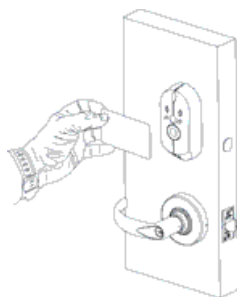

Figure 4-8 - Presenting a Proximity Card to a WA
- 4.3.1.1 Place the card flat to and within 1 to 3 inches of the upper part of the Proximity Reader (Figure 4-8). The reader sounder beeps.